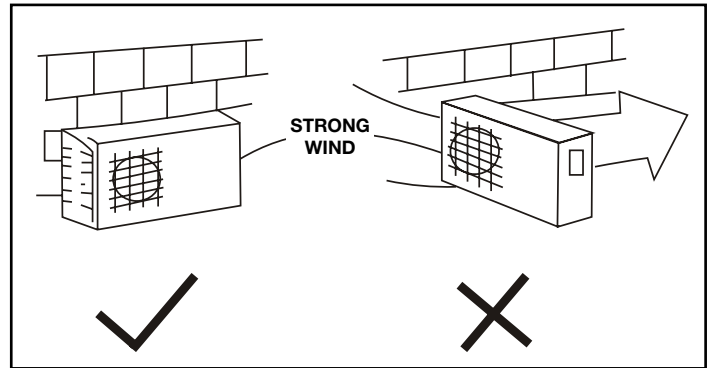

fig.9
3. If the installation point is exposed to strong winds (for example in the case of seaside locations), make sure that the fan operates properly, positioning the unit along the wall or protecting it using special screens (fig. 9). In any event, make sure that strong winds are not liable to obstruct rotation of the fan.